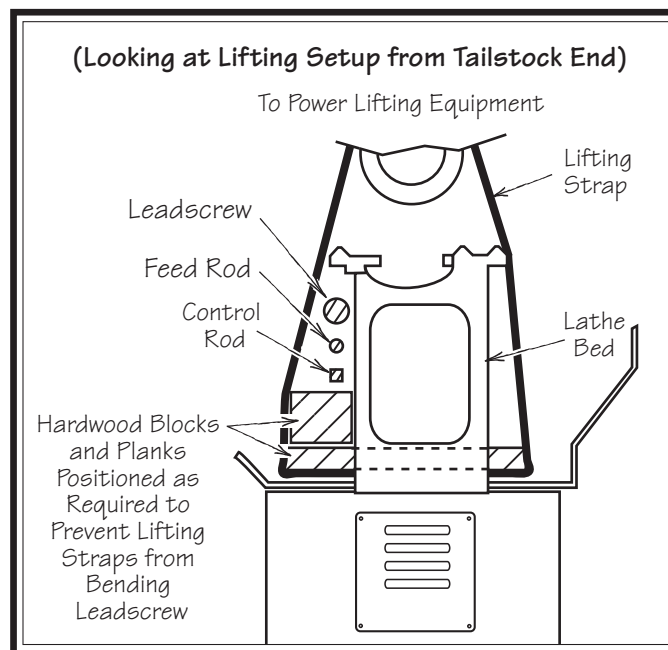

Figure 13. Lifting setup to keep straps from bending leadscrew or rods.
5. Position hardwood blocks under each end of the bed as shown in **Figure 13**. This will keep the lifting straps away from the leadscrew, feed rod, and spindle rod to prevent bending them during lifting.